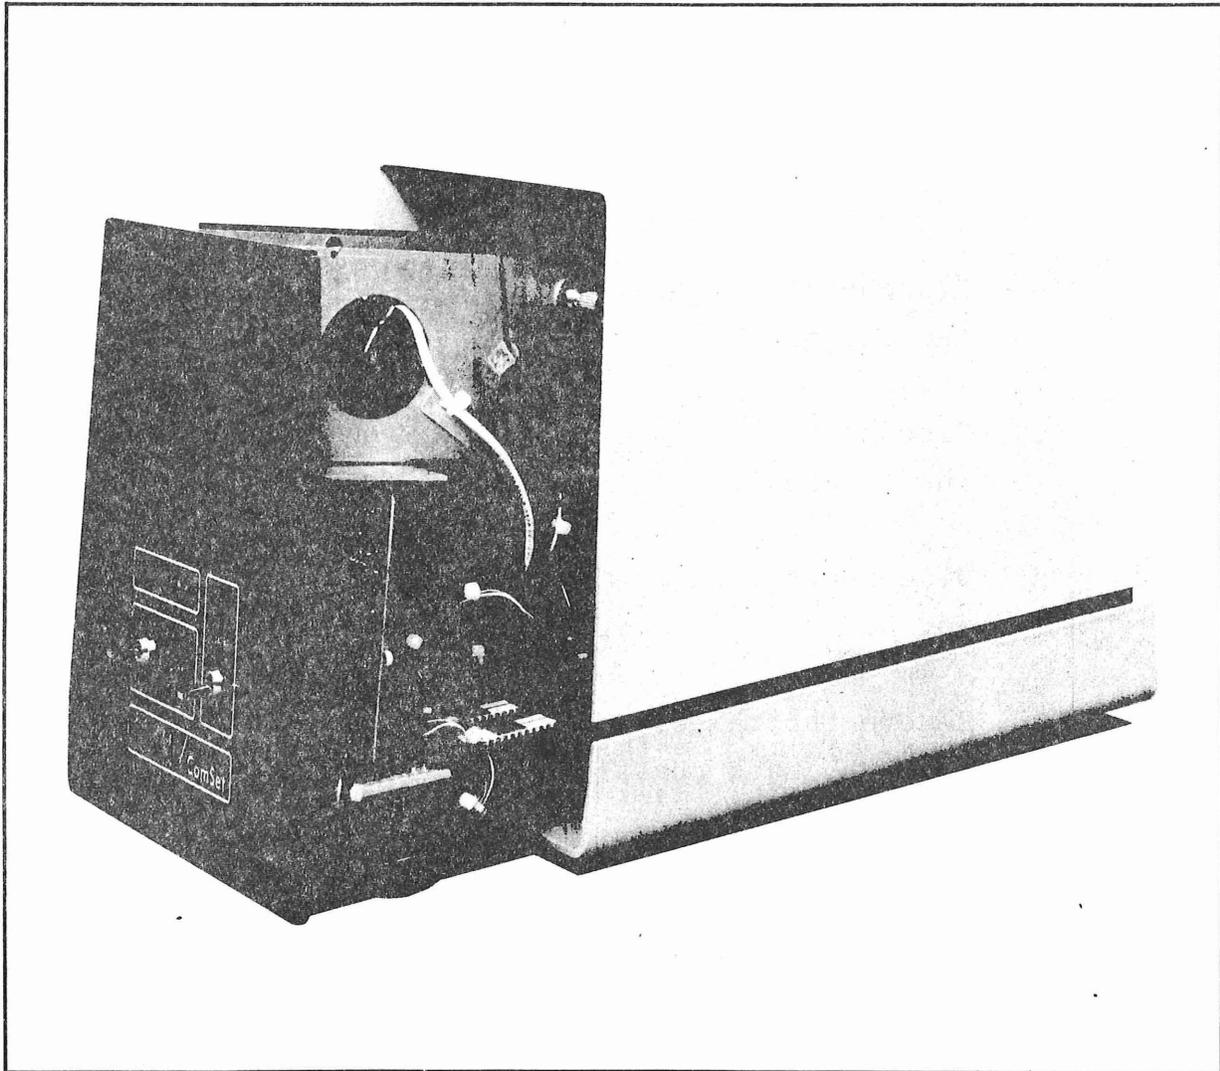

Figure 4-3. Removing Chassis From Housing
- (f) Slide the terminal chassis out the front of the housing. (See figure 4-3.)